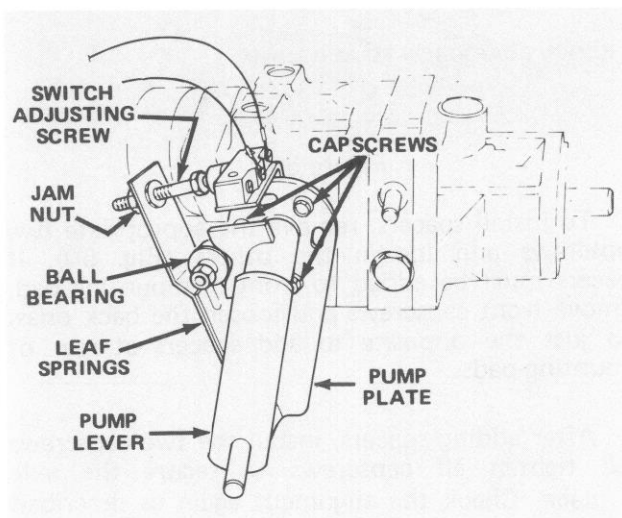

Figure 46
1. Park vehicle on a level surface and turn engine off. Apply the parking brake, tip seat forward and actuate pump lever (Fig. 46) to assure assembly is properly seated and operating freely. Correct any discrepancy.
6. Because the wheel is rotating, the pump plate must be adjusted. But before adjusting the pump plate, move throttle to SLOW. If wheel is rotating forward, loosen capscrews and lightly tap bottom of pump plate counterclockwise (Fig. 46). By contrast, tap pump plate clockwise if wheel is rotating backward (Fig. 46). When wheel stops rotating, tighten capscrews holding pump plate against side of transmission. Verify the adjustment with throttle in SLOW and FAST position.
- A. Ball bearing is loose or worn out (Fig. 46).
- F. Weak or damaged leaf springs (Fig. 46). Replace.
2. Actuate the pump lever (Fig. 46) to ensure all parts are operating freely and seated properly.
3. Loosen jam nut. Rotate switch adjusting screw (Fig. 46) until there is a gap between head of screw and switch button.